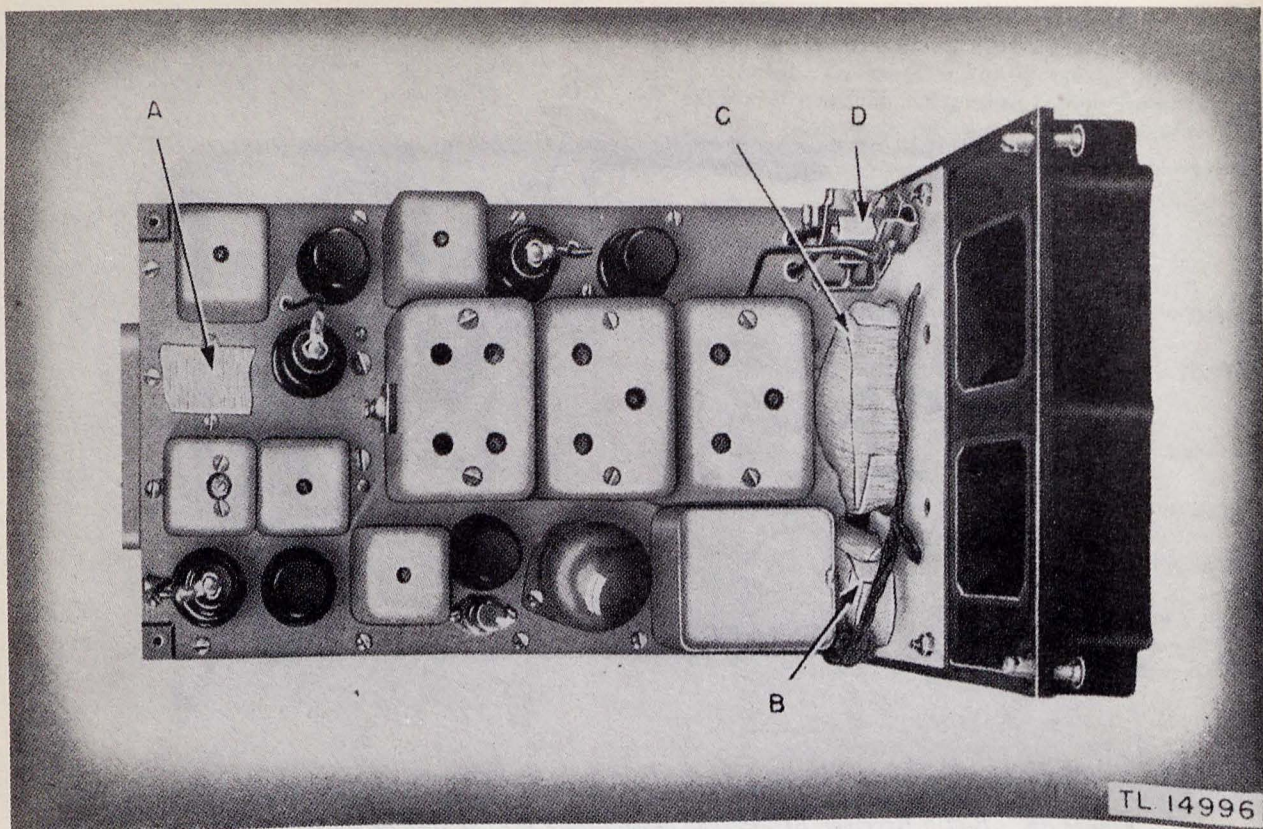

Figure 34. Radio Receiver BC-652-A, receiver chassis masked for moistureproofing and fungiproofing.
(1) Mask power plug receptacle, item A, figure 34.
(2) Mask contacts of CW-MVC-AVC switch, item B, figure 34.
(3) Mask gears of band change mechanism, item C, figure 34.
(4) Mask antenna lead terminal, item D, figure 34.